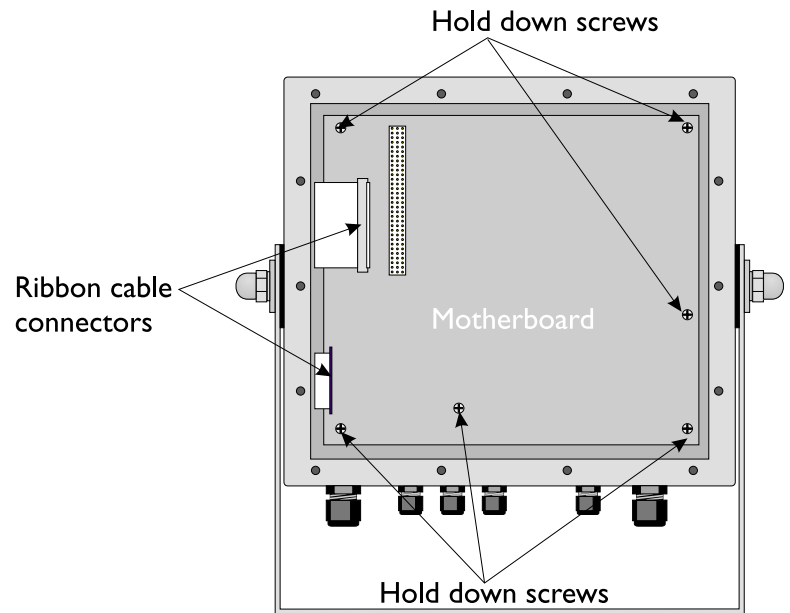

Figure 12
4. If you need to remove the main board, disconnect the two ribbon cables from the main board. Remove the six hold down screws on the pc board, as shown in Figure 12 and pull out the main board. Take care